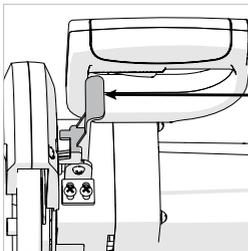

Fig. 17
- Press the lower guard locking lever to release the Cutting Head. **(Fig. 17)**